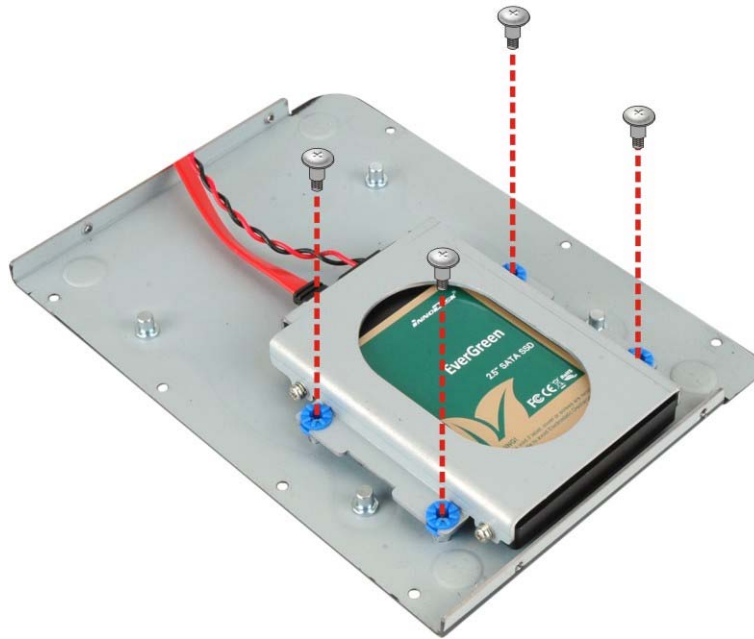

Figure 6-5: HDD Bracket Retention Screw Removal
- Step 4:** Remove the four HDD bracket retention screws (**Figure 6-5**) to remove the HDD bracket and the HDD.